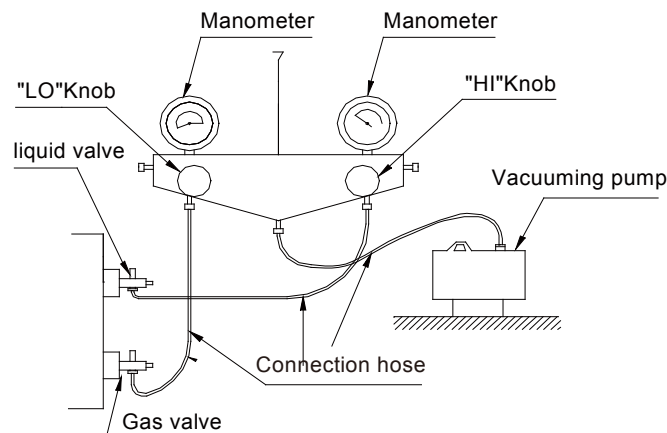

Fig 10
(1) The refrigerant has been charged into the outdoor unit before shipment, while additional refrigerant still need be charged into the refrigerant pipe during the field installation.
(2) Check if the liquid valve and the gas valve of the outdoor unit are closed fully.
(3) As shown in the following figure (Fig.10), expel the gas inside the indoor unit and refrigerant pipe out by the vacuum pump.